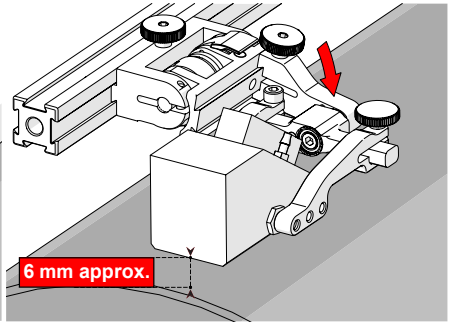

Fig. 62 - Lower to scanning surface
2. Push the probe holder yoke down toward the inspection surface until the wedge is approximately 6 mm (¼ in) above the inspection surface (Fig. 62).